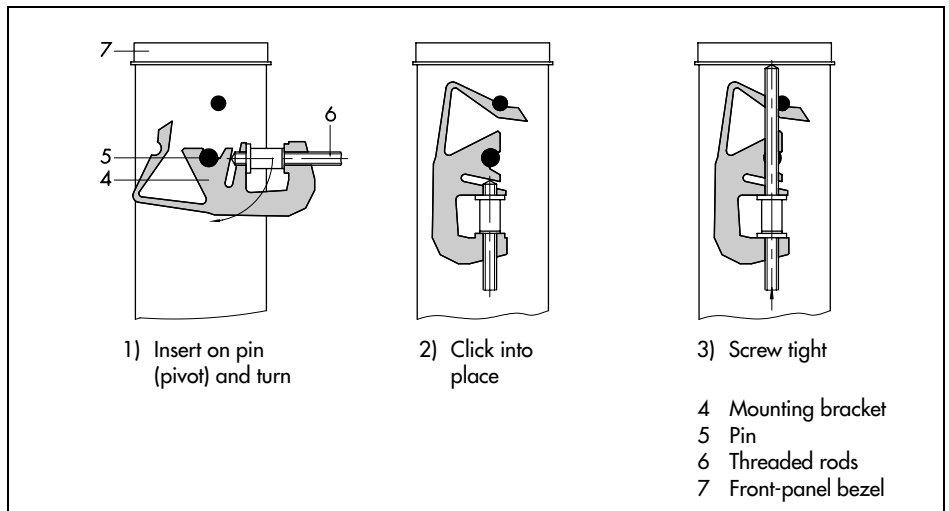

Fig. 2 · Installation (panel-mounting unit)
3. Install one supplied mounting bracket, both on the top and bottom of the control station following steps 1) and 2) shown in Fig. 2 .
4. Turn the threaded rods in the direction of the control panel, using a screwdriver so that the case is clamped against the panel ((step 3), Fig. 2) .